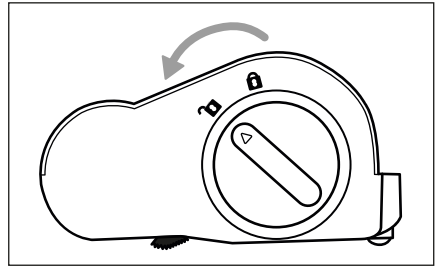

Fig. 22
- 2) Unlock the rotary brush **19** by turning the rotary brush release **18** towards the symbol **18a** (open) (see Fig. 22).